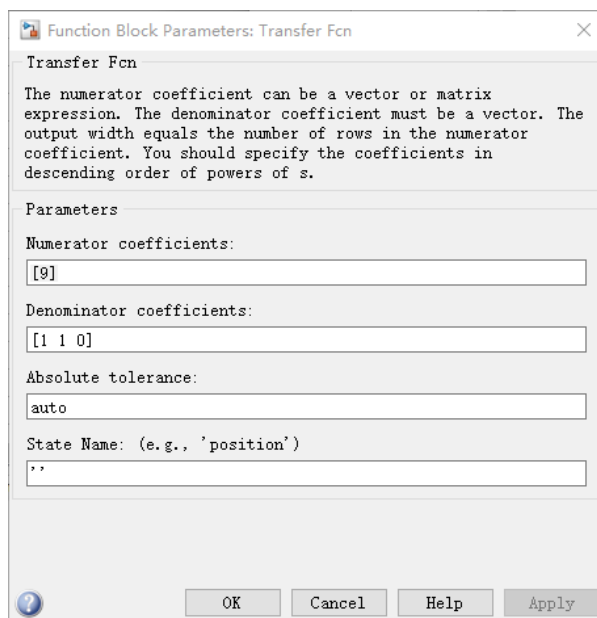
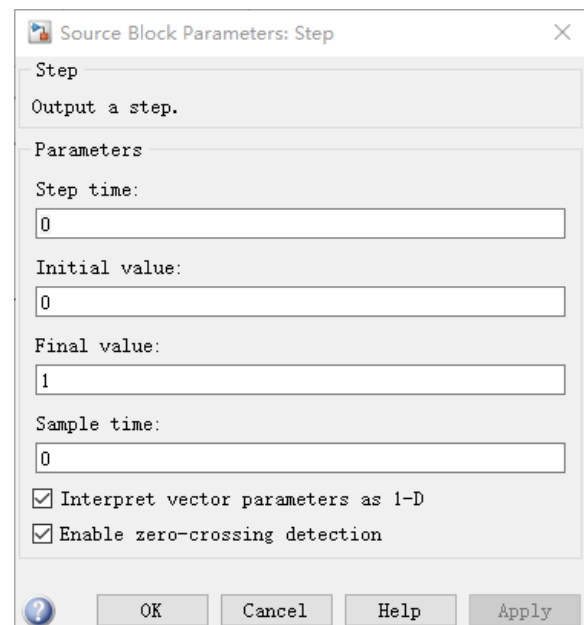

Figure 4 Parameters in "Transfer Fcn" block
Figure 5 Parameters for "Step" block
Next double click the "Transfer Fcn" block to set the parameters for the specified transfer function in (2). The result is shown in Figure 4. Then set the step time for "Step" block to be 0, which is shown in Figure 5.